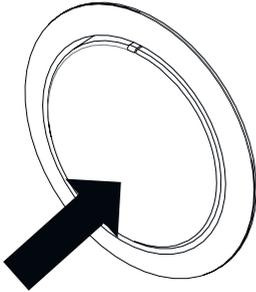

Fig. 16: Pop out off
- When cooking is finished, turn the switch to the off (top) position and press it inwards (Fig. 16).